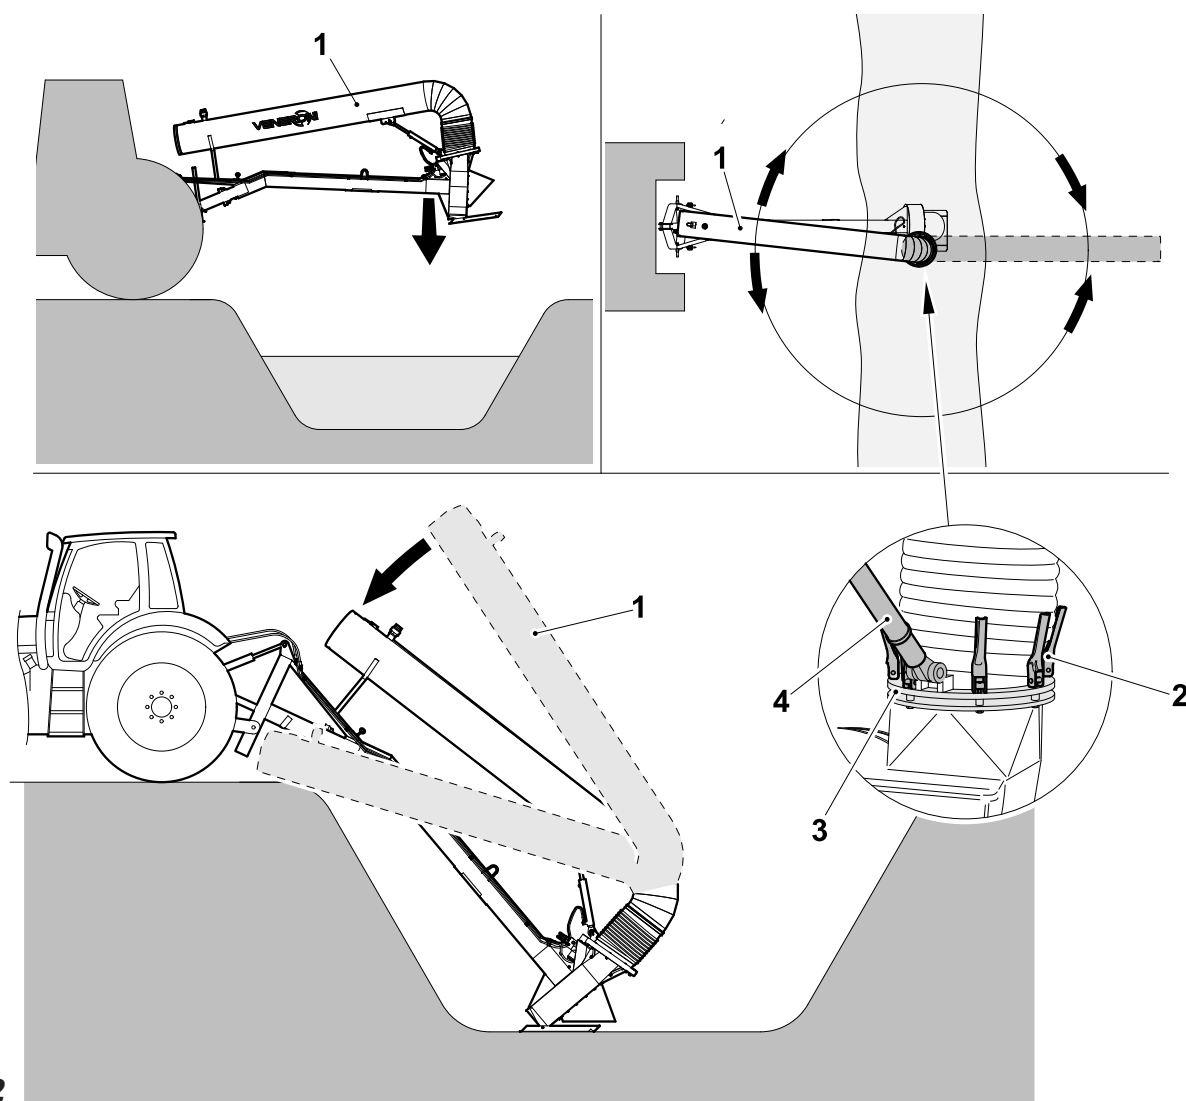

Fig.10.2
10.2 Position of delivery curve (fig. 10.2)